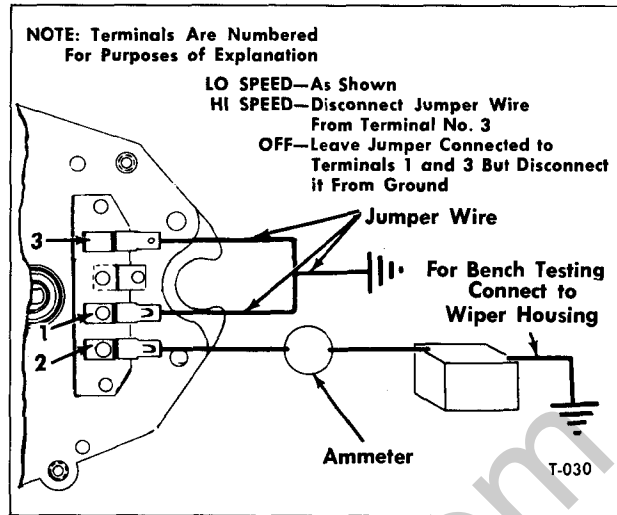

Figure 13—Troubleshooting Wiper Motor Circuit
2. Disconnect the wiring harness from wiper motor and try operating wiper independently of the dash switch as shown in figure 13. If wiper operates correctly independently of the dash switch (shuts off correctly with crank arm in "PARK" position) refer to possible causes below:
3. If wiper still fails to operate correctly, remove it from cab, then remove covering from over drive gears and check parking switch contacts which may be broken or stuck in closed position; check for a grounded lead at No. 1 or 3 terminals (fig. 13), or for a grounded shunt field.
5. If wiper still fails to operate, disconnect wiring from motor, and check for 12 volts at motor No. 2 terminal (fig. 13). No voltage indicates defective wiring.
6. With harness disconnected from motor, try operating motor as shown in figure 13. If wiper fails to operate, remove wiper transmission linkage and recheck wiper operation. If wiper operates, linkage is at fault. If wiper does not operate, remove unit from vehicle for disassembly.
3. Check operation by connecting assembled motor to battery as shown in figure 13.